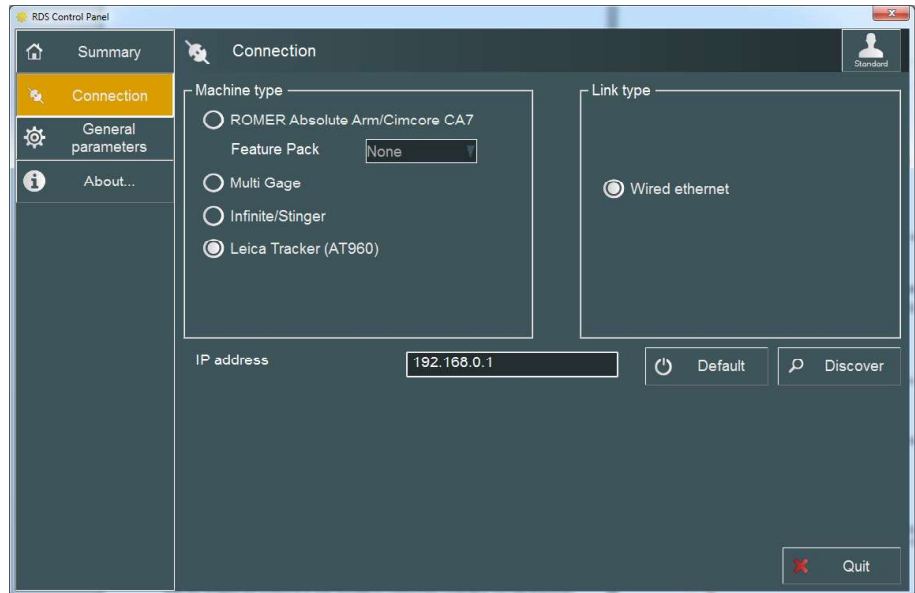

Figure 14-95. RDS Configuration.
- Within RDS go to the Connections panel on the right hand tab and configure RDS to run with the AT960 as shown in below (Figure 14-95).